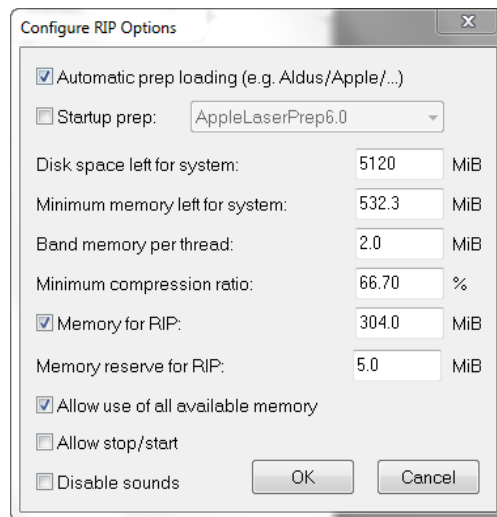

Figure 2.2 Memory settings for TrapPro
4. Ensure **Allow use of all available memory** is selected, as this will allow all free memory to be made available to the RIP. The Configure RIP Options dialog should now look similar to Figure 2.2.